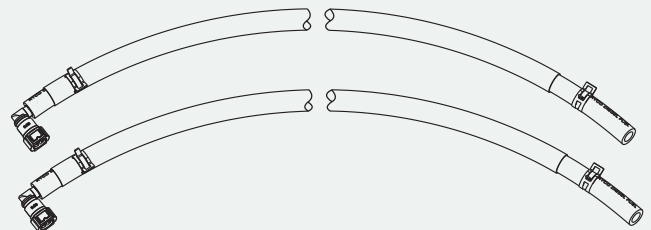

FIGURE 4
- 2 Install two (2) of the supplied elbow connectors onto one end of both supplied fuel hoses and install four (4) supplied fuel hose clamps onto both ends of both fuel hoses, as per Figure 4. Do not tighten fuel hose clamps yet.